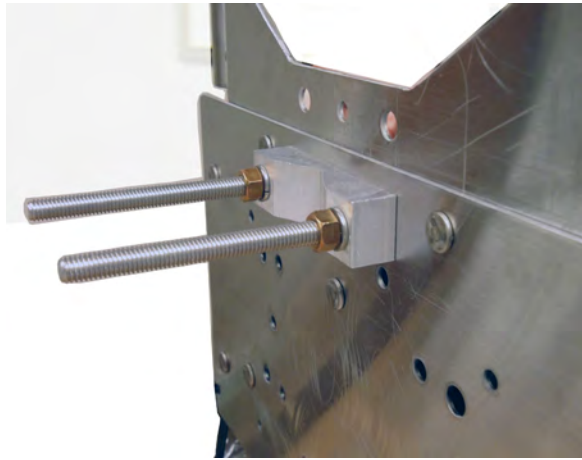

Figure 10: Attach hardware
2. Place two bolts (3/8-16 x 5 inches) through the holes in the top of the gateway mounting backplate (*Figure 10*). Use the backplate circular pattern holes for horizontal installation.